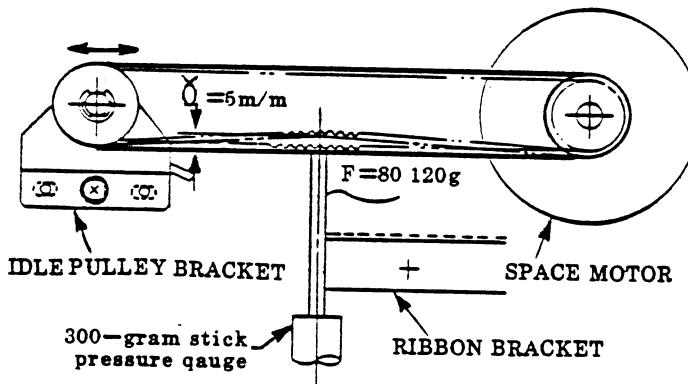

Figure 4-5. Space Belt Tension Adjustment
- Adjust the tension by moving the idle pulley bracket in either direction so that the tension is between 80 and 120 g when the space belt is depressed 5 mm at the point illustrated below in Figure 4-5.